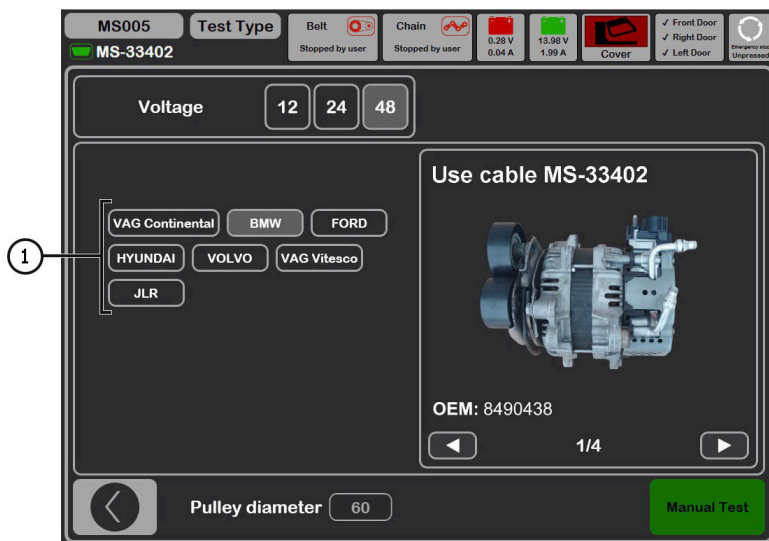

Figure 28. 48 V alternator selection menu
- 4. Enter the “**Alternator**” menu. Select the 48 V alternator diagnostic mode and the vehicle model corresponding to the alternator or the OEM number of the unit (see item 1, Fig. 28). Also set the value of the alternator pulley diameter.